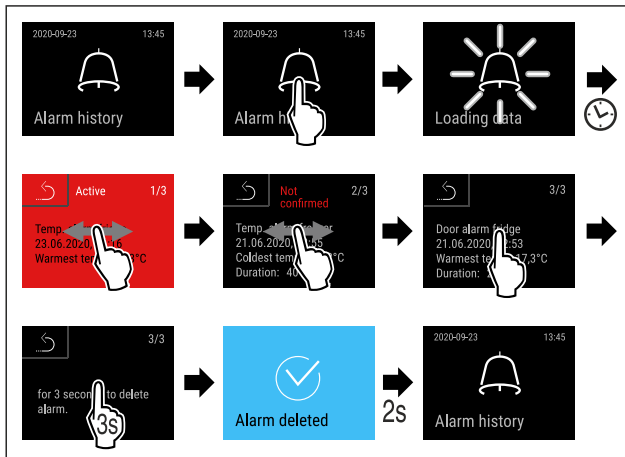

Fig. 156
- ▶ Complete steps (see Fig. 156).